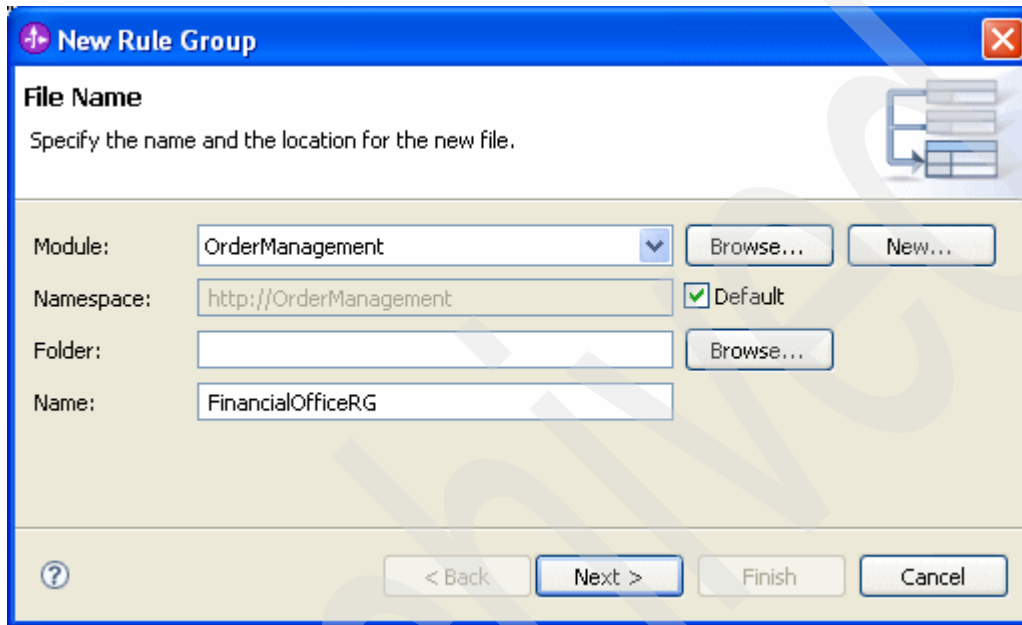

Figure 3-76 Create new rule group FinancialOfficeRG
2. Right-click **Business Logic**, select **New** → **Rule Group**, and set the Name to FinancialOfficeRG, as shown in Figure 3-76. Click **Next**.